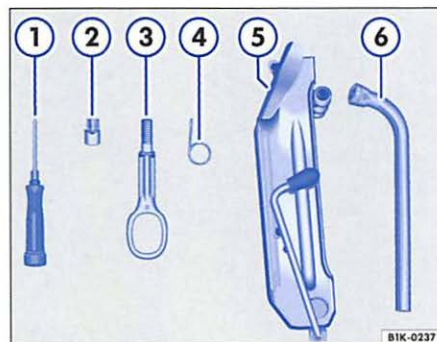

Fig. 21 Vehicle tool kit. Some of the items shown come only with certain models.
⇒ fig. 21:
- Take the wire hook from the vehicle tools ⇒ page 80, fig. 21 ④.
- Take the adapter for anti-theft wheel bolts out of the vehicle tool kit ⇒ page 80, fig. 21 ②.